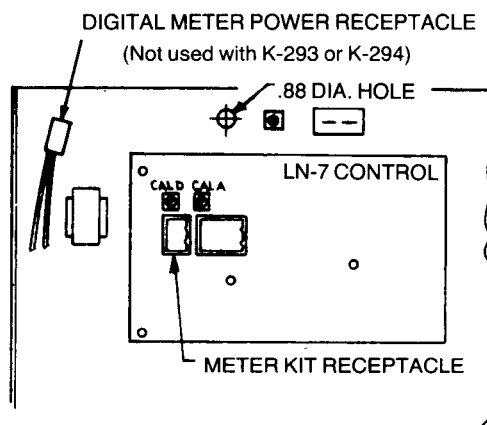

FIG. 2
6. Route the meter kit plug thru the .88 dia. hole. Connect plug to the LN-7 meter receptacle located on the upper left portion of the LN-7 Control P.C. Board (upper board) as shown in Figure 2.